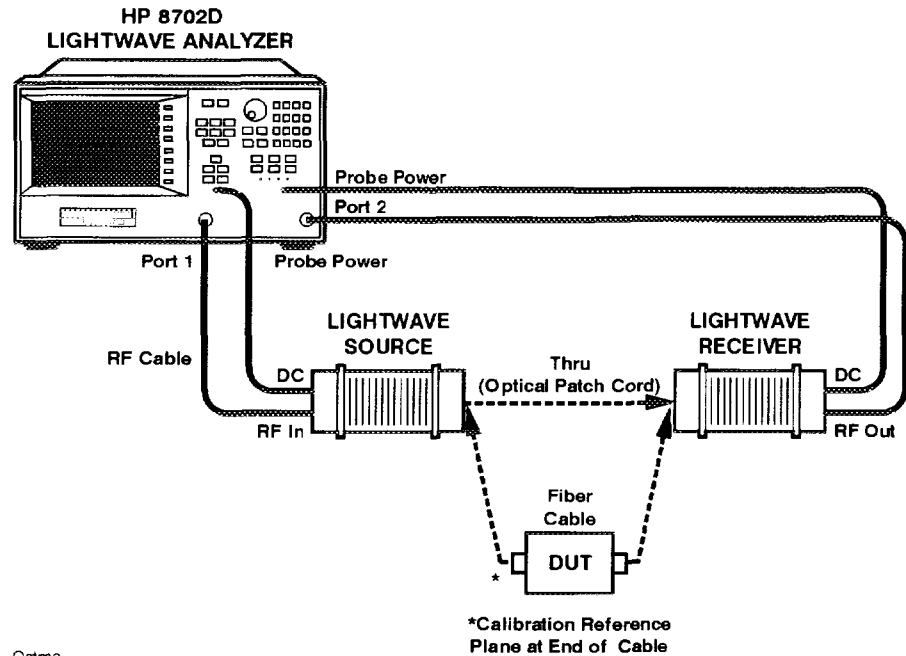

Figure 13-6. Transmission Measurement Test Setup
- 1 Connect the equipment as shown in Figure 13-6.